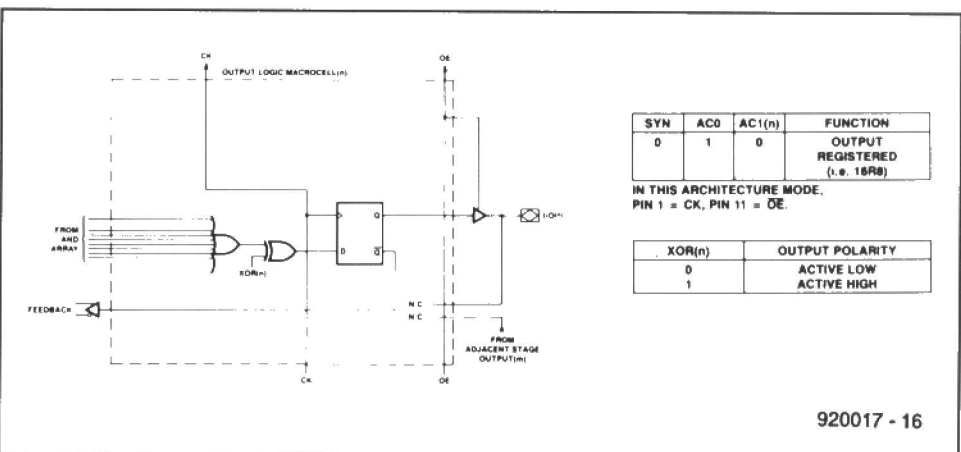

Fig. 7. Registered active high or low output.
The AD232 control program is started by typing MULTI from the DOS prompt. First, go the (M)iscellaneous option, and select the serial port to which the AD232 board is connected. On leaving this menu, the voltmeter should work, indicating the voltages on all eight channels by means of horizontal bars and an absolute readout. (see Fig. 7). When fewer than eight channels are used, the screen is automatically enlarged.
(CLK) and pin 11 is low. SYN=0; AC0=1; AC1(n)=0 (Fig. 6). There are two possible versions of this output (see Fig. 7)